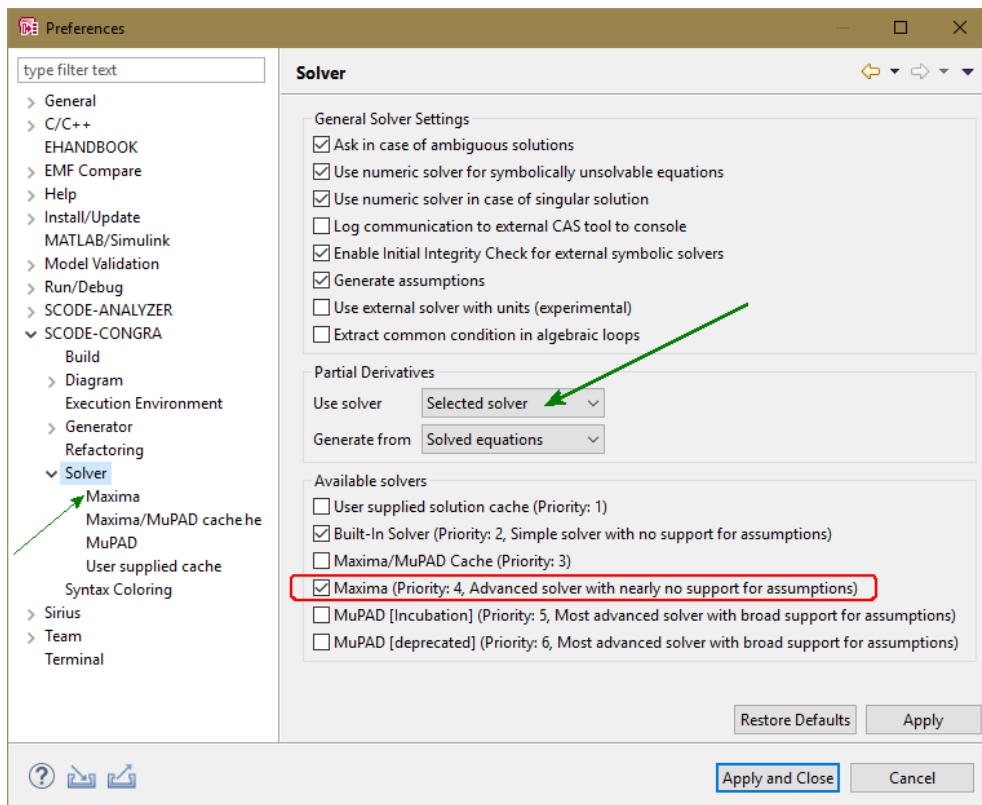

Figure 81. "Preferences" window with "Solver" settings for SCODE-CONGRA
3. In the "Use Solver" combo box (large arrow in Figure 81), select Selected Solver.
6. Configure the Maxima installation directory in the "Maxima" subnode (small arrow in Figure 81).